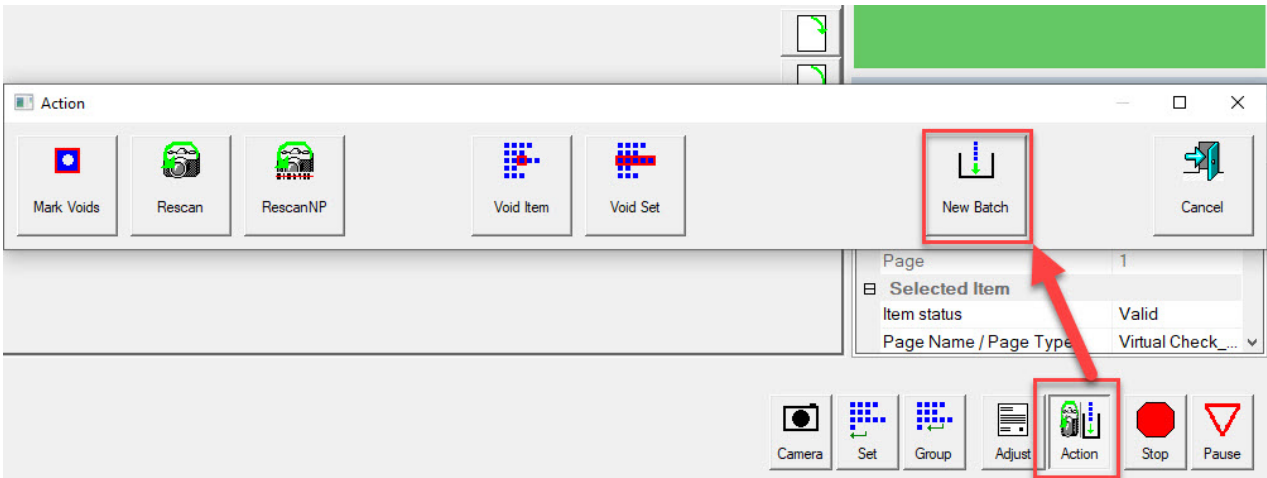

Figure 4-9: Action - New Batch
- While the Job is running, click the **Action** button and select the **New Batch** button to start a new batch with the next scanned item (Figure 4-9).